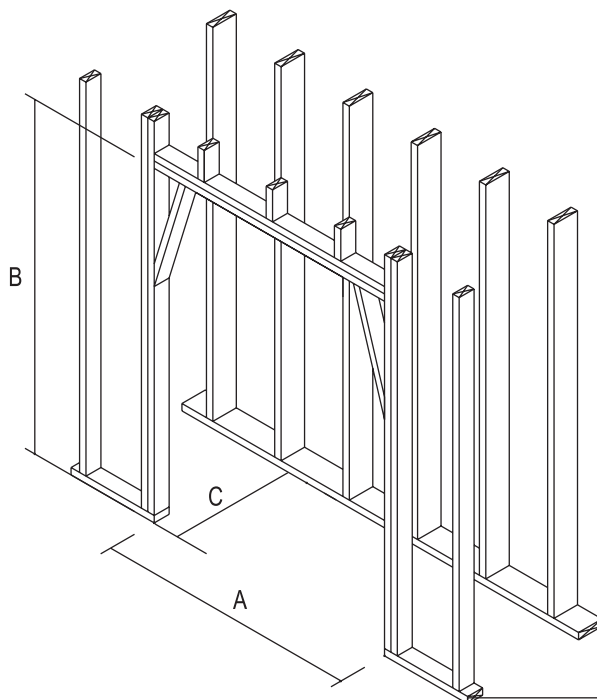

FIGURE 10
5. Rough framing dimension for depth "C" allows for the required 1 1/2" clearance at the back of the Fireplace. 29 1/2" is only for an interior wall as most exterior wall framing have insulation, even if the wall is 2x6, the foam they spray expands so typically 31" is allowed on an exterior wall (**Figure 10**)